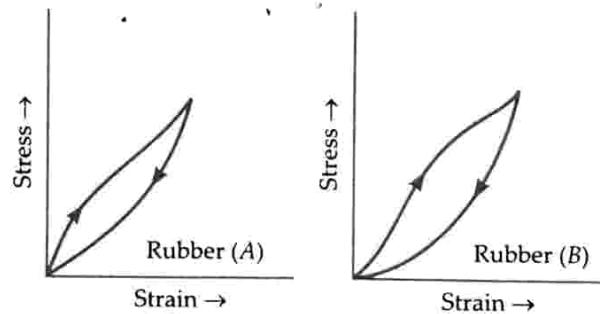

Fig. 9.26
**Problem 5. Two different types of rubber are found to have the stress-strain curves as shown in Fig. 9.26.**
- In which significant ways do these curves differ from the stress-strain curve of a metal wire shown in Fig. 9.26?